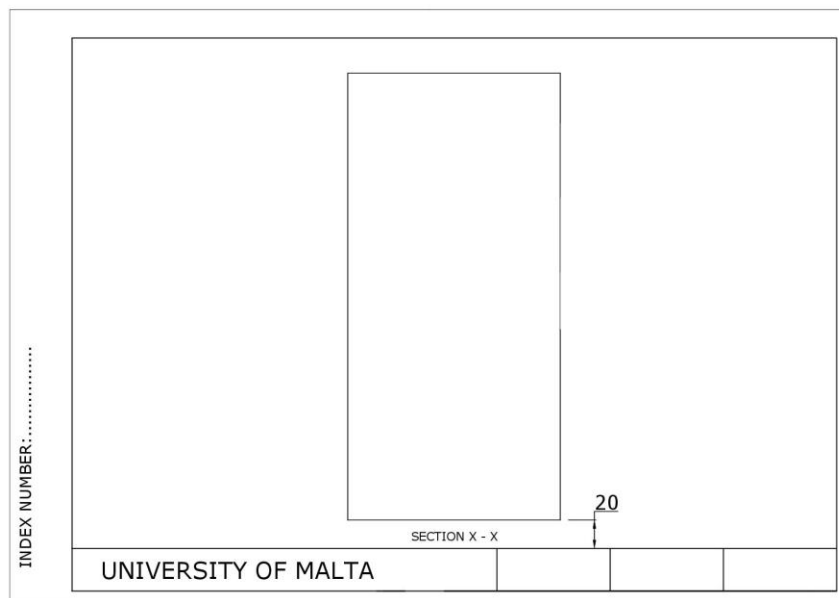

Figure 1c
- It is suggested that you start your drawing 20 mm above the title block (see Figure 1c).